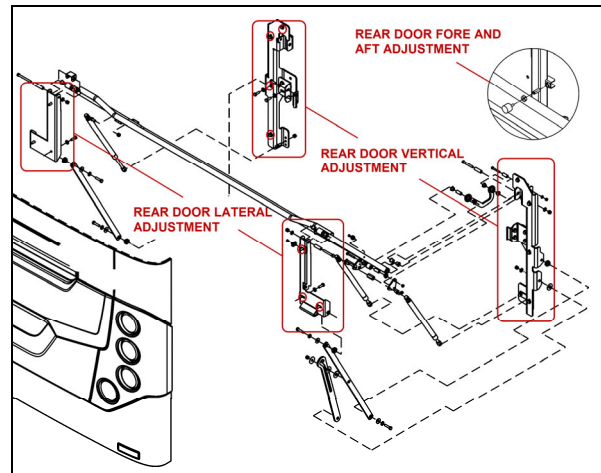

FIGURE 110: ENGINE COMPARTMENT DOOR
1. To adjust the door VERTICAL position, loosen the bolts (4 on each side) holding the door supporting arm and gas springs bracket to the *vehicle structure* (Figure 110).
2. To adjust the door LATERAL position, loosen the bolts (3 on each side) holding the door supporting arm and gas springs bracket to the *door* (Figure 110).
3. Adjust the door FORE & AFT position by screwing/unscrewing the rubber door stops on each side of the door opening (Figure 110).